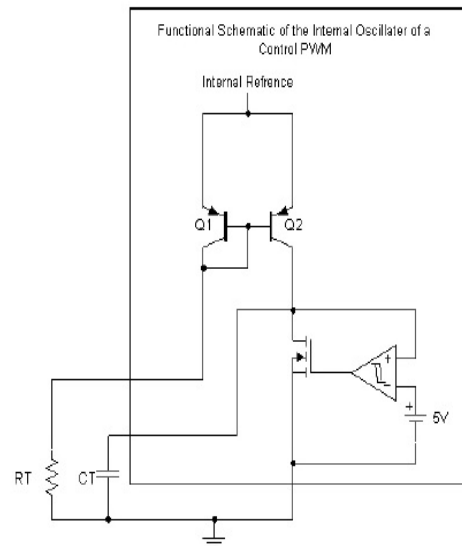

Figure 3. PWM Oscillator Timing Circuitry
Figure 3 shows a functional block diagram of the internal circuitry that generates the oscillator signal of the PWM controller in Figure 1. The timing is set up by an R and C and a comparator. RT sets the charging current in the timing capacitor (CT) through the current mirror formed by Q1 and Q2. An internal comparator with hysteresis will control when CT will charge and discharge forming the PWM timing. To dither the switching frequency of the PWM, circuitry will be added to the converter to modulate CT's charging current.